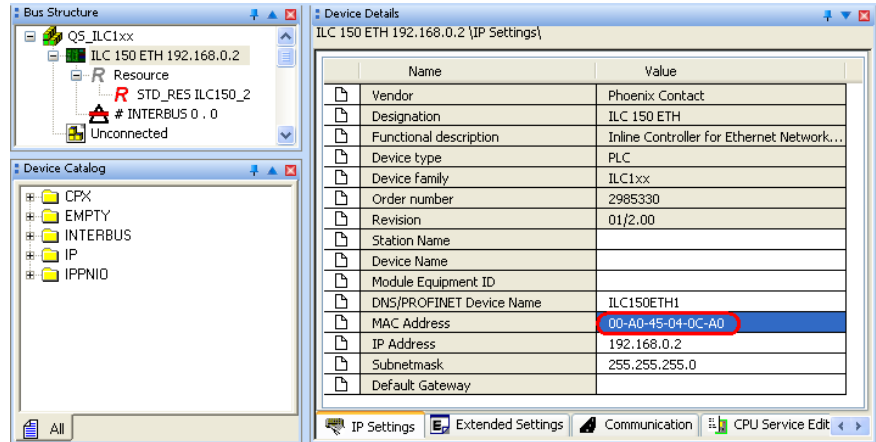

Figure 3-3 Entering the MAC address
To determine whether your network permits the IP settings used in the example project (see Figure 3-3 on page 3-4), proceed as follows:
If your network does not permit the use of the IP address used in the example project, adjust the settings in the project information accordingly (see Figure 3-3 on page 3-4).
If any modifications are made to the project information that affect the IP settings for the controller, a warning is displayed. However, the modification is not implemented automatically. When a new project is created, the default settings are specified under "IP Settings" (see Figure 3-3 on page 3-4).
- Enter the MAC address of the controller (see Figure 3-3 on page 3-4). It is printed on the device and starts with 00.A0.45.